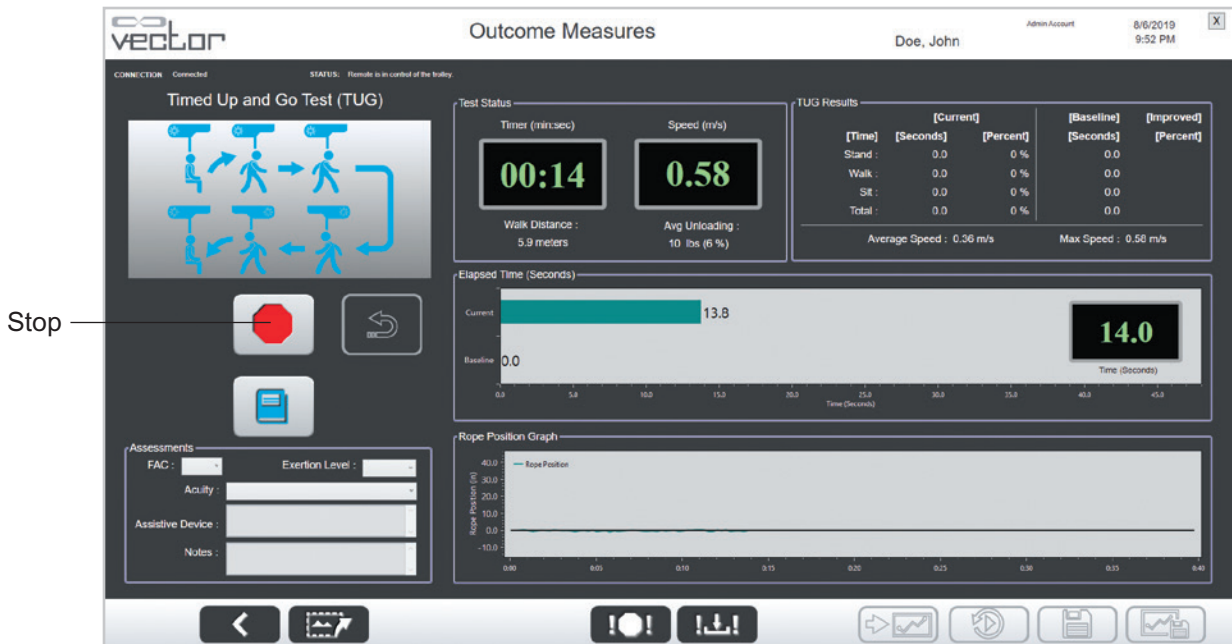

Figure 7-4: Outcome Measures TUG Test Screen (Active Test)
6. The patient will then stand, walk out 3 meters to the cone, turn around by walking around the cone, walk back, and return to a seated position in the chair. Once the patient sits back in the chair, press the Stop button to end the TUG test. See Figure 7-4.